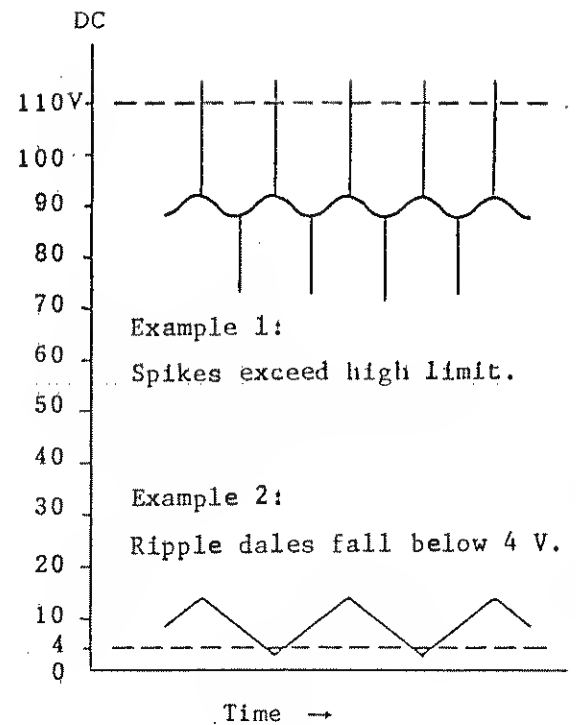

Figure 2.1.2
- d. Be certain the DC input voltage applied does not contain high frequency noise spikes that exceed the limitation of the instrument. (See Figure 2.1.2, Example 1).
- e. Be certain that the DC input voltage applied does not exceed the lower limitation of the instrument. (See Figure 2.1.2, Example 2).
It is possible to apply short duration pulses which do not cause the Overvoltage or Overpower circuits to respond. In such a case damage to the load may occur. If it is suspected that high amplitude, high frequency pulses are present in the load source power, steps must be taken to inhibit such voltage components. (See Figure 2.1.2, Example 1).